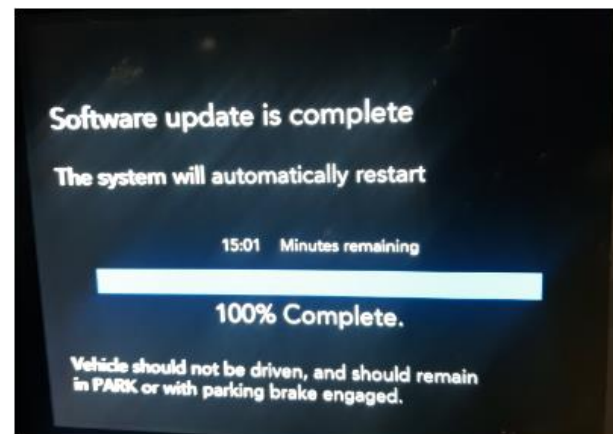

Figure 4
7. Upon successful completion of software update, the display will indicate "Software Update is complete" (Figure 4).